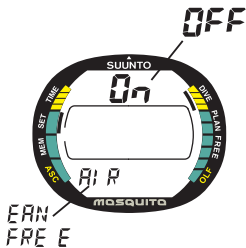

Fig. 4.8. Set Air/EAN/Free Mode. Enable/disable status blinks.
2. Wait two seconds until the Dive Setting Mode activates automatically. The enable/disable status [On/OFF] starts to blink on the display and the selected dive mode (AIR, EAN or FREE) is displayed (Fig. 4.8.)